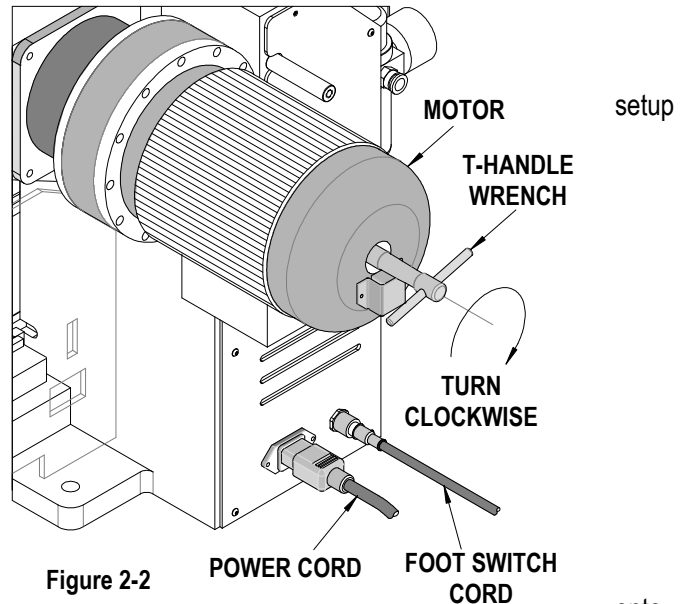

Figure 2-2
1. Insert the hand-cycle T wrench (furnished with the press) through the access hole in the center of the motor's rear cover and locate it on the motor shaft. See Figure 2-2.